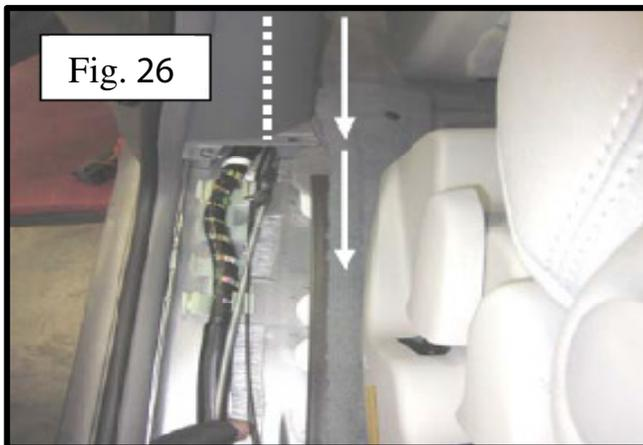

Fig. 26
11. Route the harness following the existing wiring harnesses under the cross member along the center post (white arrows / white dotted line). Using a flexible pickup tool, route the harness between the front and rear door behind the panel following the existing wiring harness (Fig.26).